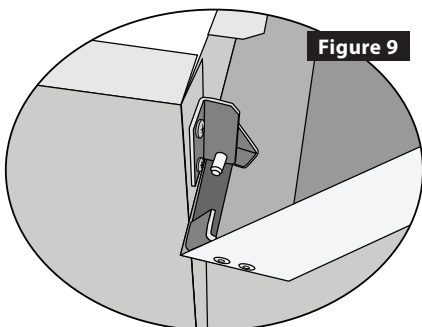
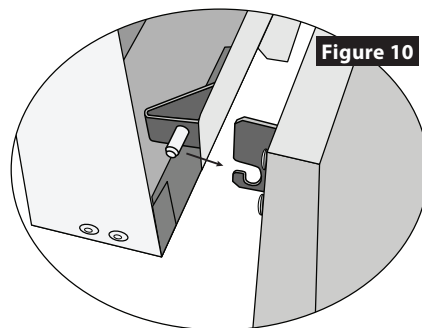

Figure 9
Figure 10
11. **LID:** Attach the lid by inserting the lid's right hinge pin into the hole in the right bracket on the back panel. **Figure 9.** Slide the lid's left hinge pin into the slot in the left bracket. **Figure 10.**